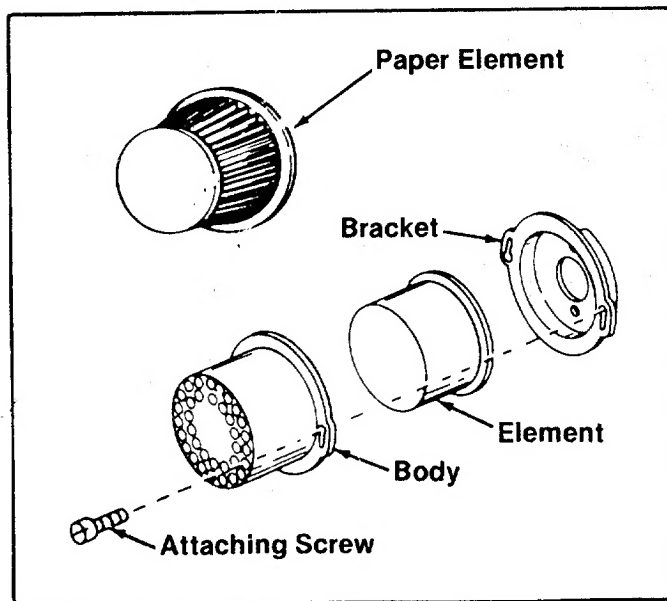

FIGURE 18
4. Air Cleaner. (See figure 18.)